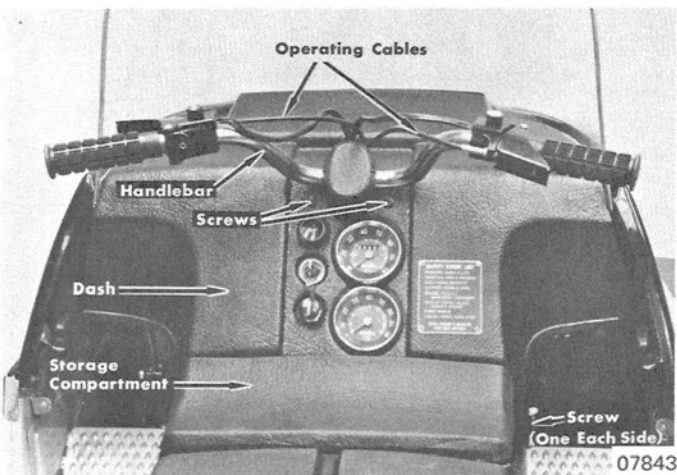

Figure 1. Dash
2. Remove 2 screws from inside of storage compartment. (Figure 1)
3. Remove 2 screws from dash below handlebar and screw from each side of dash by storage compartment. (Figure 1)